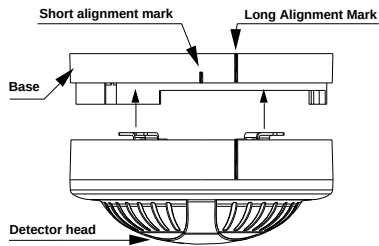

Figure 4.
- (1) Align up the position of head to the base, see Figure 4.
- (2) Screw the detector head into the base in clockwise direction.